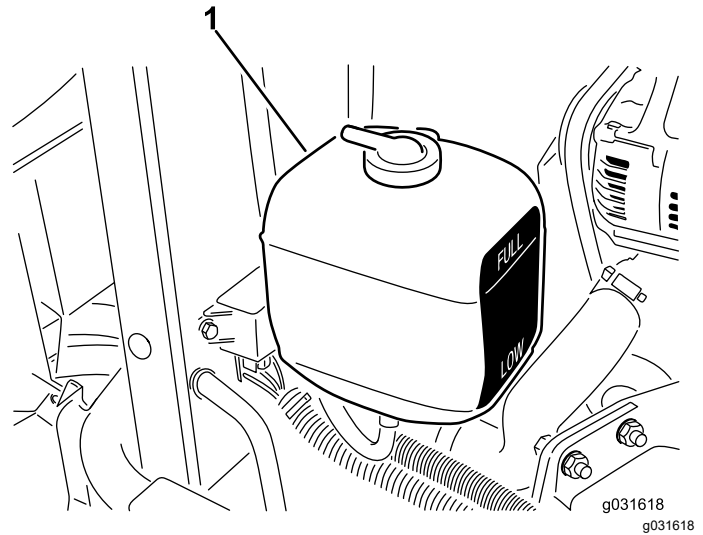

Figure 57
1. Check the coolant level in the expansion tank (Figure 57).